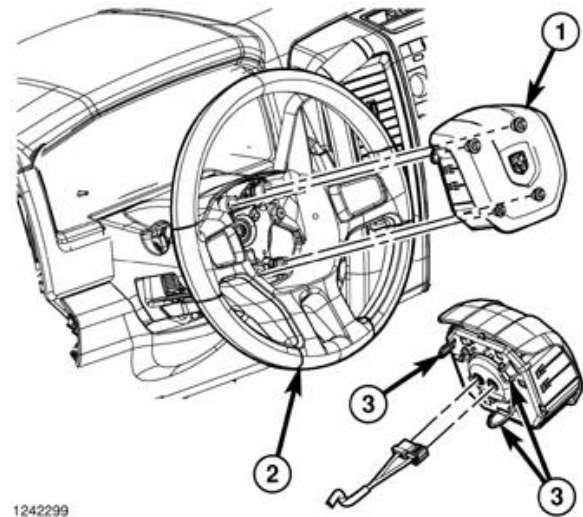

Figure 4 – Airbag Removal
9. Push the handle of the tool downward for the blade to pry the snap retainer wire loop (3) upward far enough to disengage the loop from the hook of the steering wheel armature. At the same time, gently pull the DAB (1) away from the steering wheel (2) to prevent the retainer from snapping back into place over the hook once it is disengaged (Figure 4).